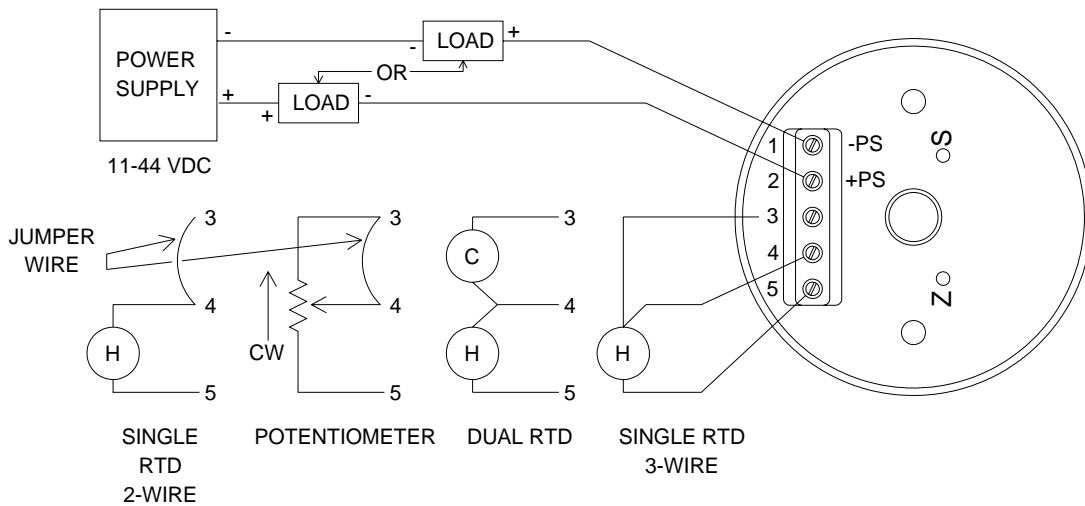

FIG. 3.1 - Typical Wiring
3.2 Connect appropriate DC power source in series with load to (+) and (-) power terminals. Note, the load may be connected to either the (+) or (-) power lead. Also connect the RTD element or the variable resistor to the input terminals. Refer to FIG 3.1 for detailed wiring instructions.